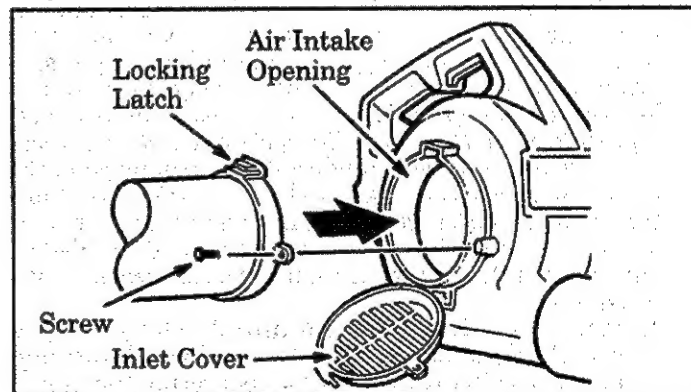

Figure 4
5. Holding inlet cover open, slide upper tube into the air intake opening until the latch on the locking ring snaps into place. Figure 4.
6. Install the screw in the screw tab on the vacuum tube. Figure 4. Tighten securely.